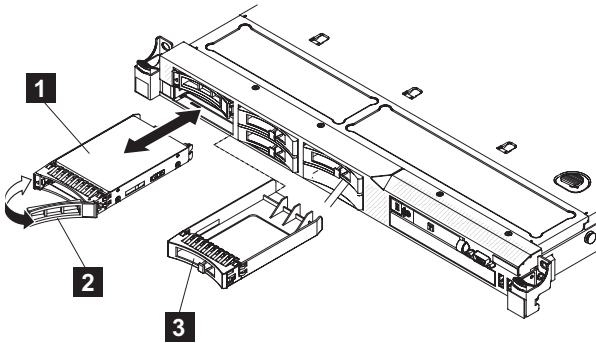

Figure 115. SAN Volume Controller 2145-CF8 drive and drive-bay filler
- b. Align the drive assembly with the guide rails in the bay, as shown in Figure 115.